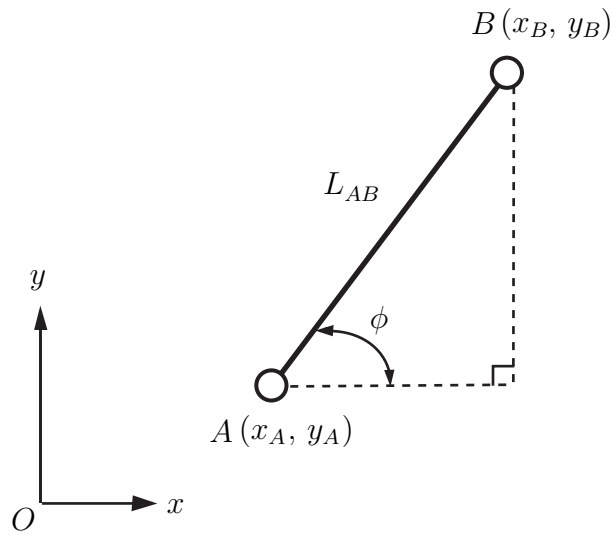

Figure 3.1
The position analysis of a kinematic chain requires the determination of the joint positions and/or the position of the center of gravity (CG) of the link. A planar link with the end nodes A and B is considered in Fig. 3.1. Let (x_A, y_A) be the coordinates of the joint A with respect to the reference frame xOy , and (x_B, y_B) be the coordinates of the joint B with the same reference frame. Using Pythagoras the following relation can be written